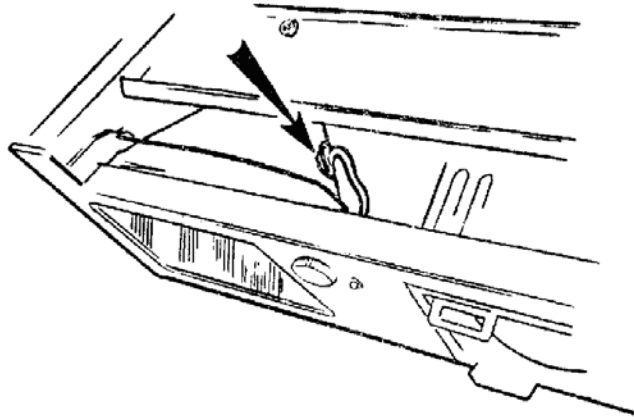

Figure 2-6. Location of CRT high voltage connector.
- (1) Disconnect the high voltage connector (2nd anode) as shown in figure 2-6.